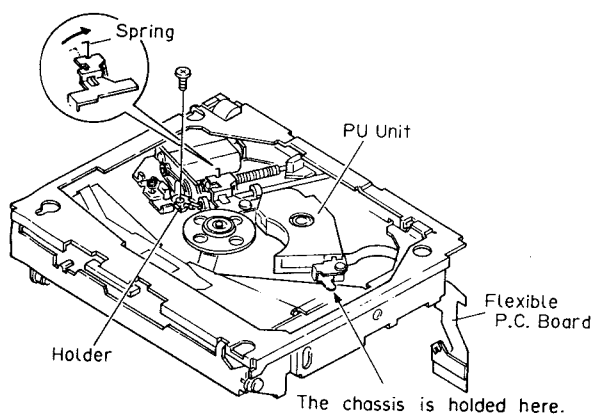

Fig. 11
7. Hook the spring as shown in the figure.(Fig.11)
8. Remove the holder and screw.(Fig.11)
9. Remove the flexible P.C.Board.(Fig.11)
10. Remove the PU Unit.(Fig.11)